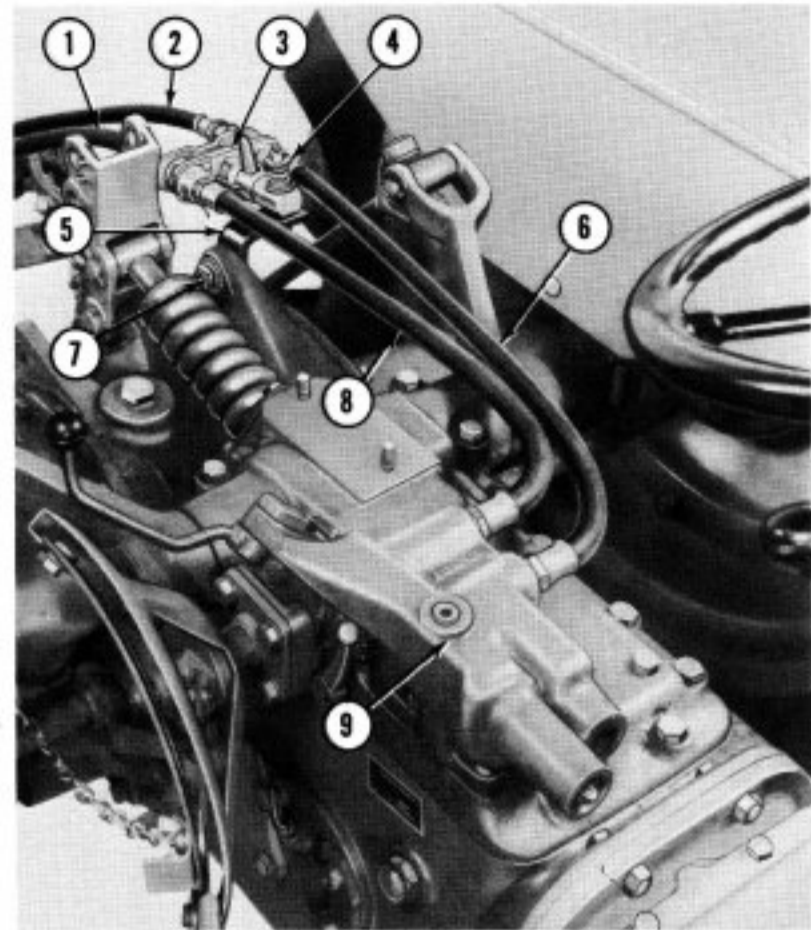
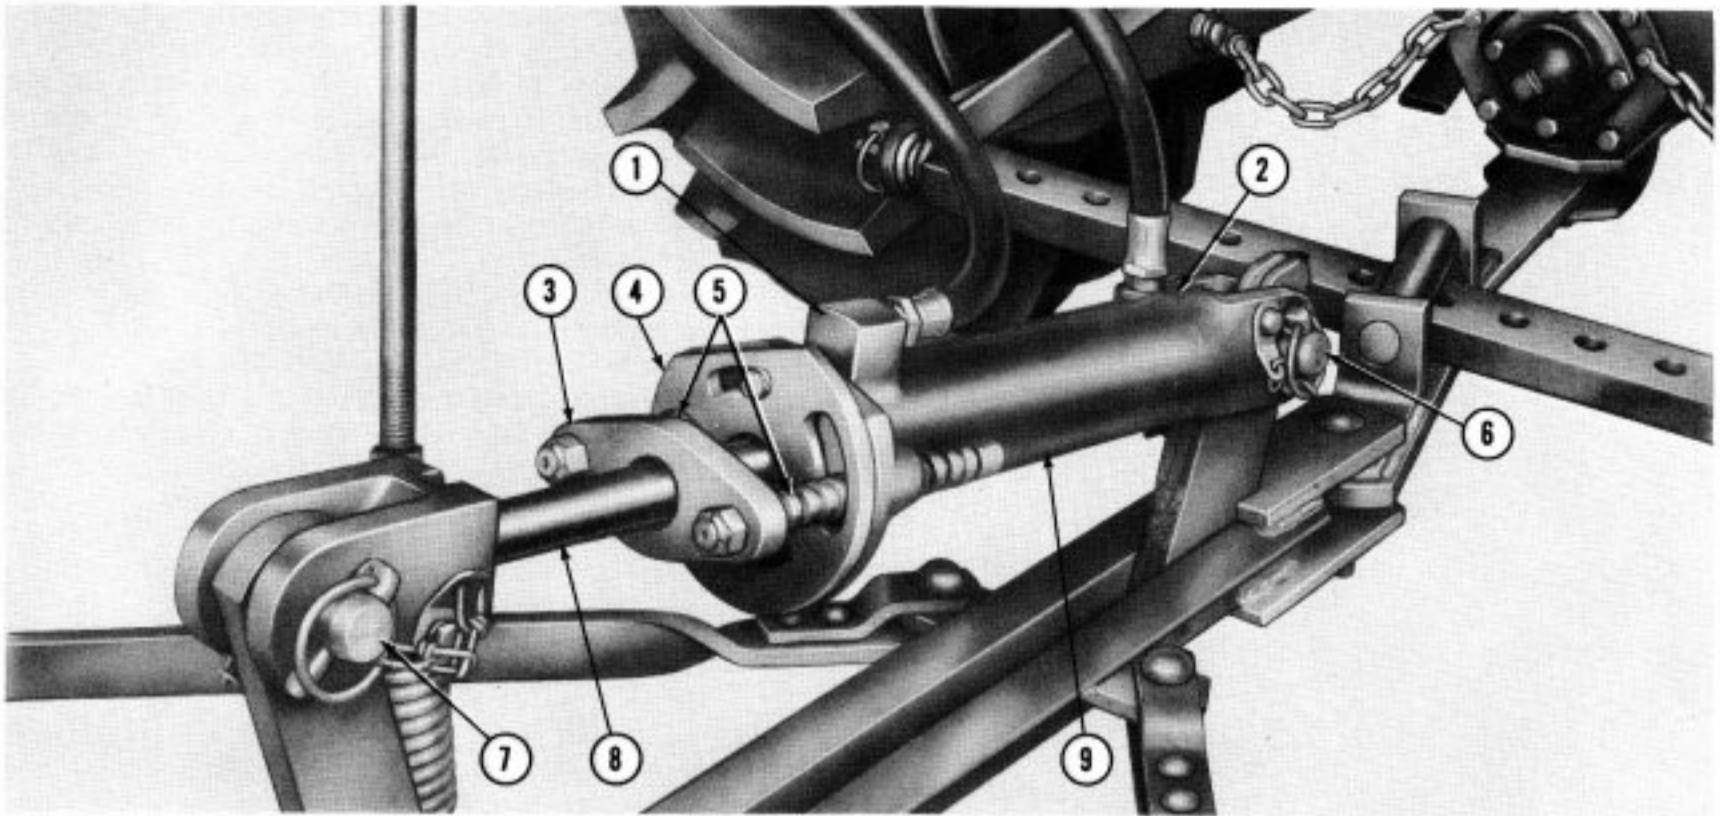

Figure 2
Figure 3
3. Insert the "O" rings in the counterbores of the valve, making sure that they are properly located. Note that two "O" rings are larger than the others. Secure the valve (9) to the tractor hydraulic lift cover as shown in Figure 2.
1. Turn the short hose (8), Figure 2, and long hose (6) into the valve parts as shown.
2. Attach the bracket (5), Figure 2, to the tractor center housing with the bolt (7), bushing, flatwasher and nut provided.
3. Attach the hoses (6) and (8), Figure 2, to the coupling (3) as shown. Secure the coupling to the bracket (5) with the bolt (4), flatwashers, spring and nut as shown.
4. Attach the two long hoses (1) and (2), Figure 2, to the rear fittings of the coupling (3).
5. Attach the other end of the right hose (1), Figure 2, to the lower port (2), Figure 3, in the cylinder.
6. Attach the left hose (2), Figure 2, to the upper port (1), Figure 3, in the cylinder.
7. Attach the cylinder to the brackets on the implement with the pins (6) and (7) and linch pins as shown in Figure 3.
Stroke of Piston Rod: The length of the piston rod stroke may be adjusted by turning the lock plates (4), Figure 3, and pulling the stop (3) out to the desired position. Lock the two graduated rods (5) in position with the lock plates (4), Figure 3.